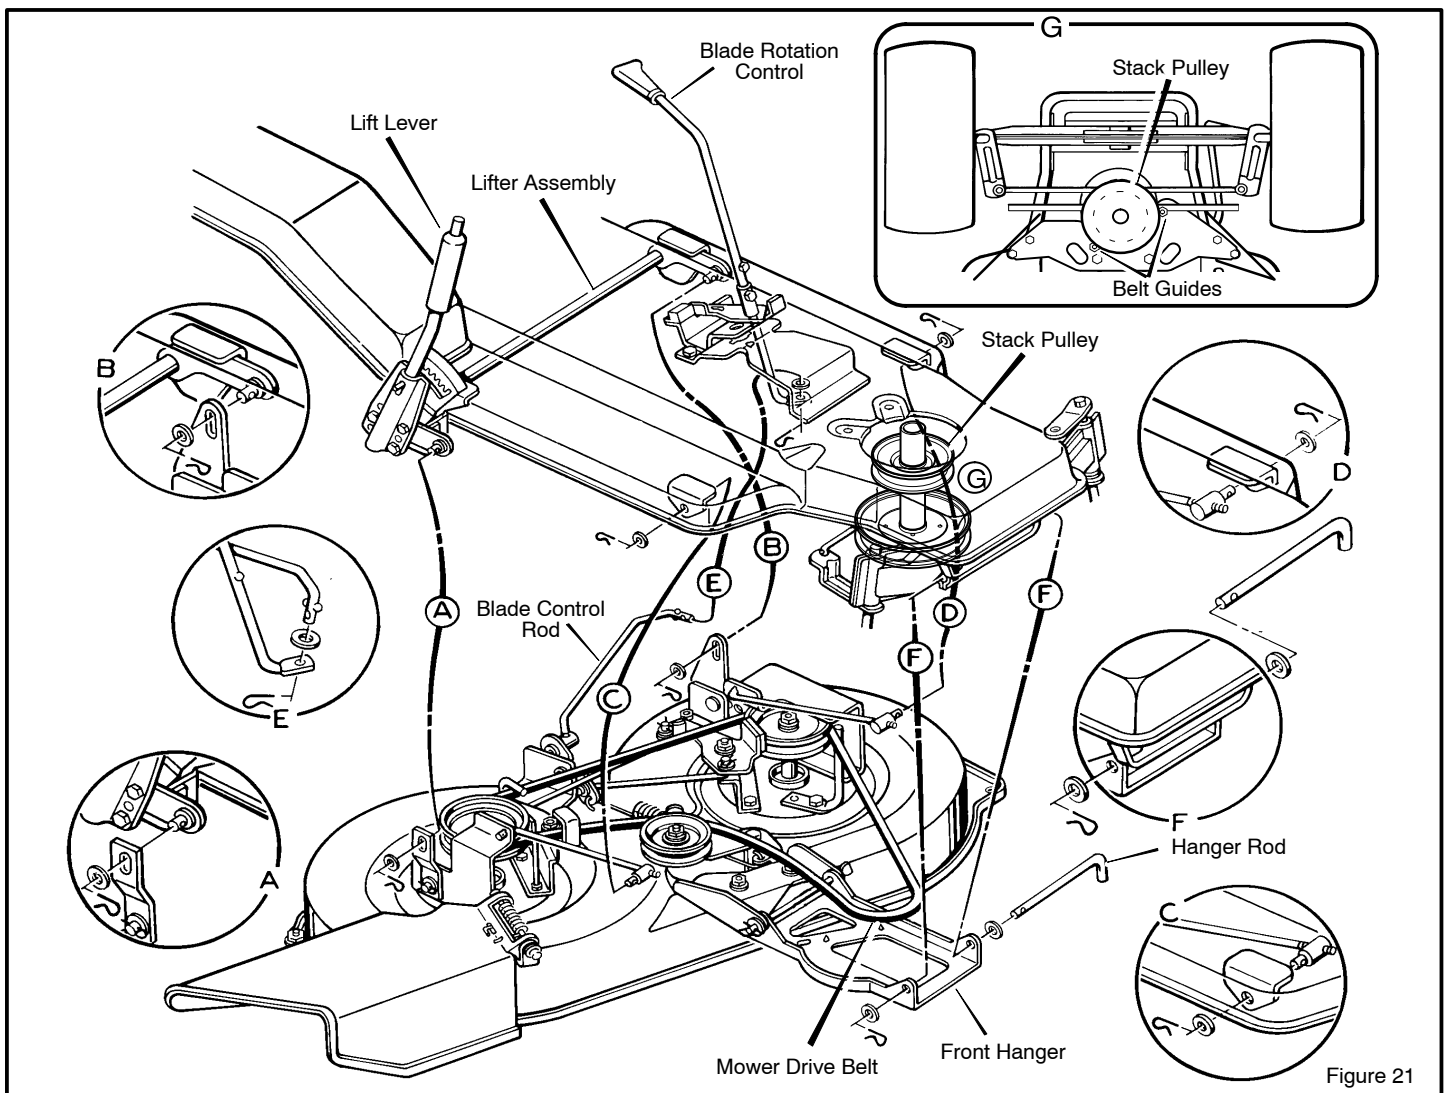

Figure 21
3. Remove the hair pins and the washers from the adjusting rods (Figure 21). See illustrations "C" and "D".